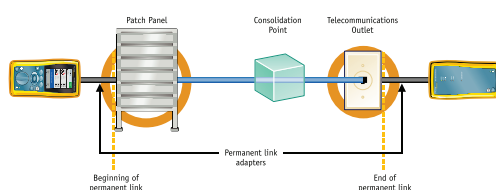

Figure 1
Note that the configuration of this test link is unusual. The recommended permanent link configuration ends in a patch panel on one end and the TO at the other end with optionally a consolidation point (CP) (connection) no less than 15 m from either end (and usually closer to the TO) as depicted in figure 1. In this regard, the diagnostic depicted in figure 5a is also correct. This permanent link contains one more connection than usual or than recommended. We know however that after replacing the defective patch cord with a good one, this link including the connector anomaly meets the Class E permanent link test.